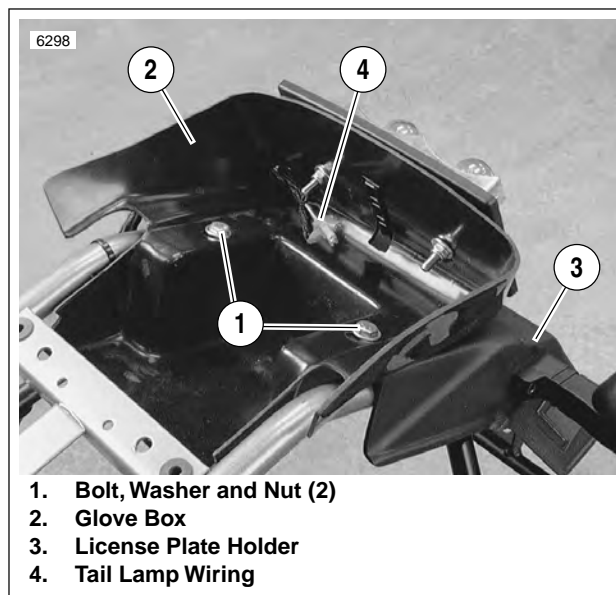

Figure 2-108. Assembled Glove Box/License Plate Holder
2. See Figure 2-108. Place license plate holder (3) on frame. Install turn signals. See 7.14 TURN SIGNALS.
3. Place glove box (2) on license plate holder. Secure with two bolts, washers and nuts (1).
4. Thread tail lamp wiring (4) through hole in glove box.